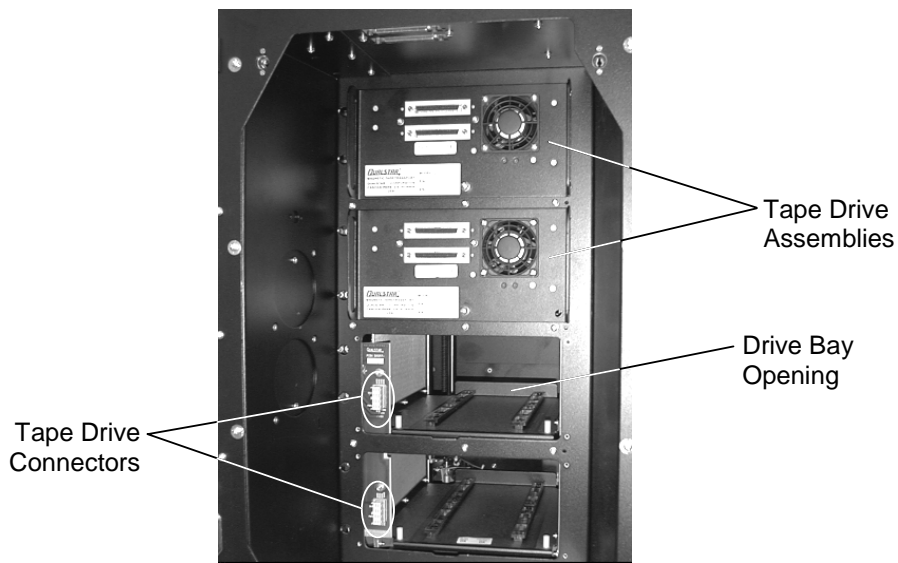

Figure 7-64 58xxx, 68xxx and 88xxx Models Drive Bay with Tape Drive Assemblies - Right Side Shown
5. Carefully guide the PCBA and its Bracket through one of the openings in the right side of the TLS' frame. Maneuver the tape drive connectors on the PCBA so they are facing out the drive bay openings (Figure 7-64). Align the Brackets three holes with the corresponding threaded holes in the TLS.
7. Install two tape drive assemblies into the TLS in the drive bays that correspond to the PCBA that is being installed. Carefully align the Tape Drive Connector's on the Drive Bay PCBA with the mating connector's on the tape drive assemblies (Figure 7-64). It may be necessary to move the Drive Bay PCBA Bracket to properly align the connectors. Refer to Chapter 5 in the TLS-5000/6000/8000 Installation and Operation Manual (Qualstar document number 501450) for more information on tape drive assembly installation.
5. Carefully guide the PCBA and its Bracket through the front of the TLS. Maneuver the tape drive connectors on the PCBA so they are facing out the drive bay openings (Figure 7-64). Align the Brackets three holes with the corresponding threaded holes in the TLS.